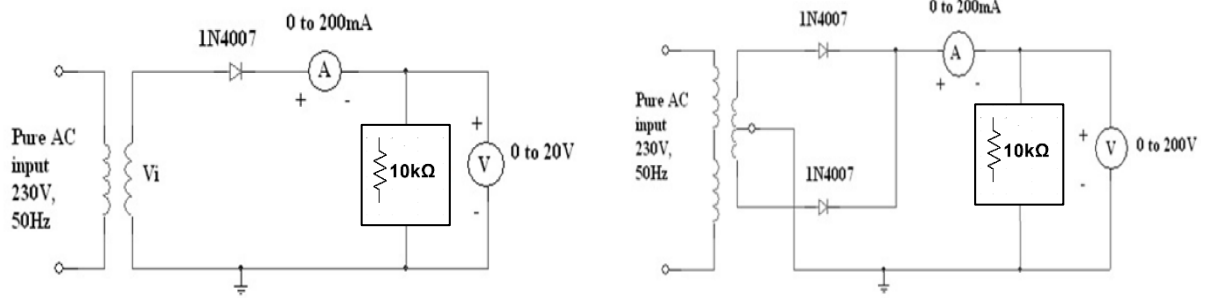

Fig 3.1: Circuit Diagram Showing Half Wave and Full Wave Rectifier.
- Connect the circuit as shown in the fig. 3.1
- Connect the circuit as shown in the fig.3.1.